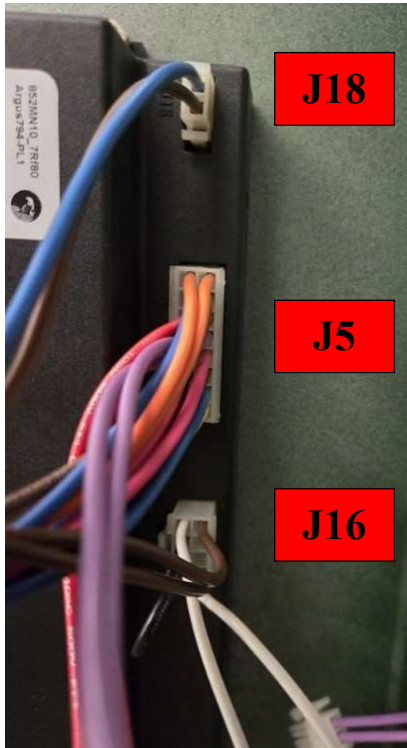

Figure 7: Connections for Control Wiring Harness
4. Disconnect the J5, J16, and J18 connectors from the right side of the control board as shown in Figure 7.